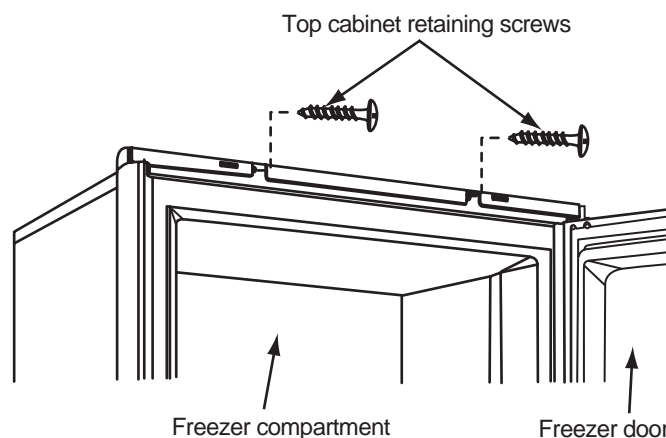

Figure 35. Top cabinet retaining screws
11. Remove the two retaining screws from the top of the cabinet. See Figure 35, page 37.
5. Install the two retaining screws in the top of the cabinet. See Figure 35.